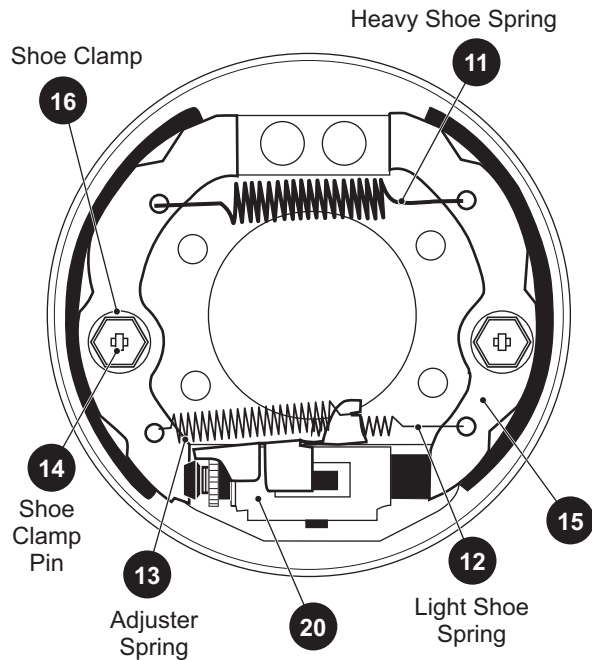

Fig. 23 Brake Shoes and Springs
3. Remove the three brake shoe springs (11, 12, 13). Note the location of the heavy spring and the adjuster spring (Ref Fig. 23).
4. Hold the shoe clamp pin (14) and compress and rotate the shoe clamp (16) 90° to release it from the shoe clamp pin.
5. Remove the brake shoes (15), adjuster (20) and remaining components.
Always replace both brake shoes on both wheels as a set. Install the shoes as indicated and install the shoe clamp (5) over the shoe clamp pin (4) and rotate 90° to lock them in place (Ref Fig. 23).
11. Install new brake shoe (11, 12) and adjuster (13) springs. The hooked end of the adjuster spring is inserted through the front of the front shoe as shown(Ref Fig. 23).